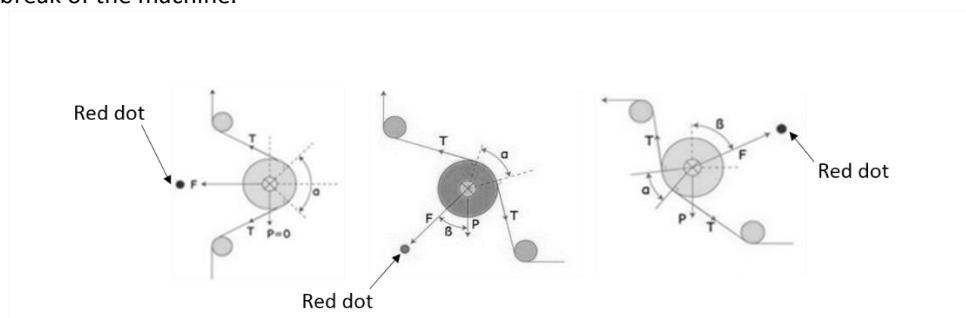

Figure 2
- Mount the cell with the arrow, printed on the body of the cell itself, oriented in the same direction of the resultant of the forces acting on the load cell. A red dot is printed onto the load cell body and has the same role of the arrow, hence helping the correct orientation of the sensor. *Figure 2*
- Mount the cell with the arrow, printed on the body of the cell itself, oriented in the same direction of the resultant of the forces acting on the load cell. *Figure 2*